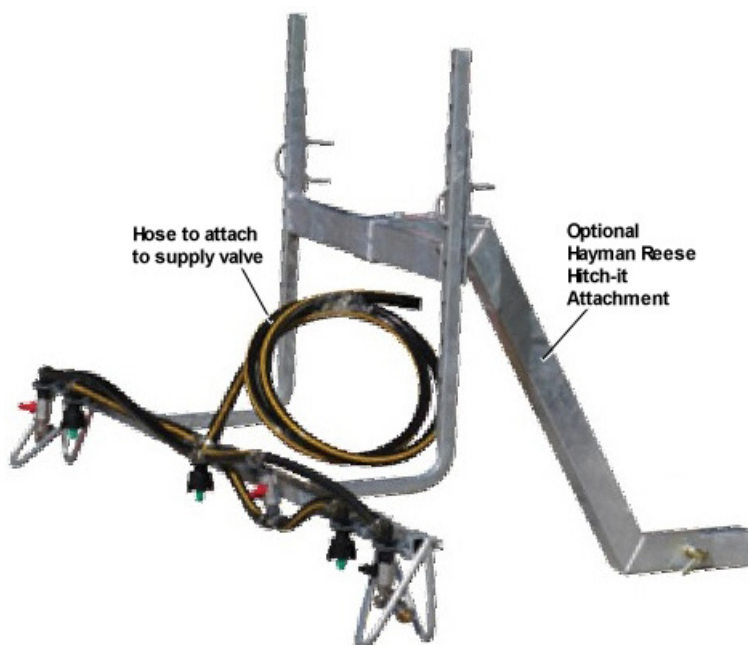

Figure 5 – Spray Boom Arrangement
- Where the optional spray boom is ordered (refer to Figure 5), install it to the vehicle and connect the hose to the manually operated valve at the pump manifold.